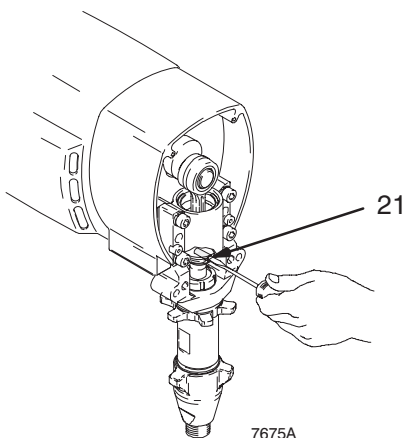

Fig. 24
2. Fig. 24. Push pin (21) into holes.